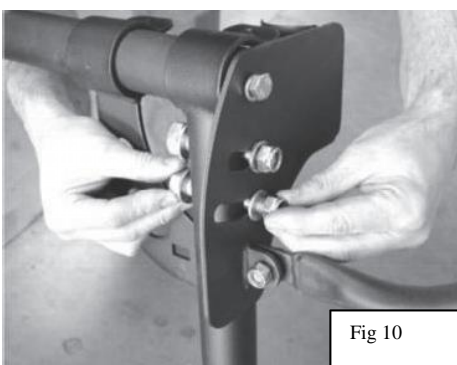

Fig 10
3. Attach the Rear Upright to the Quick Disconnect Mounting plate using (2) M16 x 70mm (1) M12 and (1) M 16 flat washers and (2) lock nuts. (Fig 10)